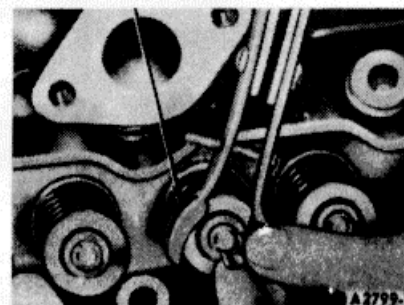

FIG. 60 Compressing Valve Spring - On Bench
4. Compress the spring and install the retainer locks (Figure 60).